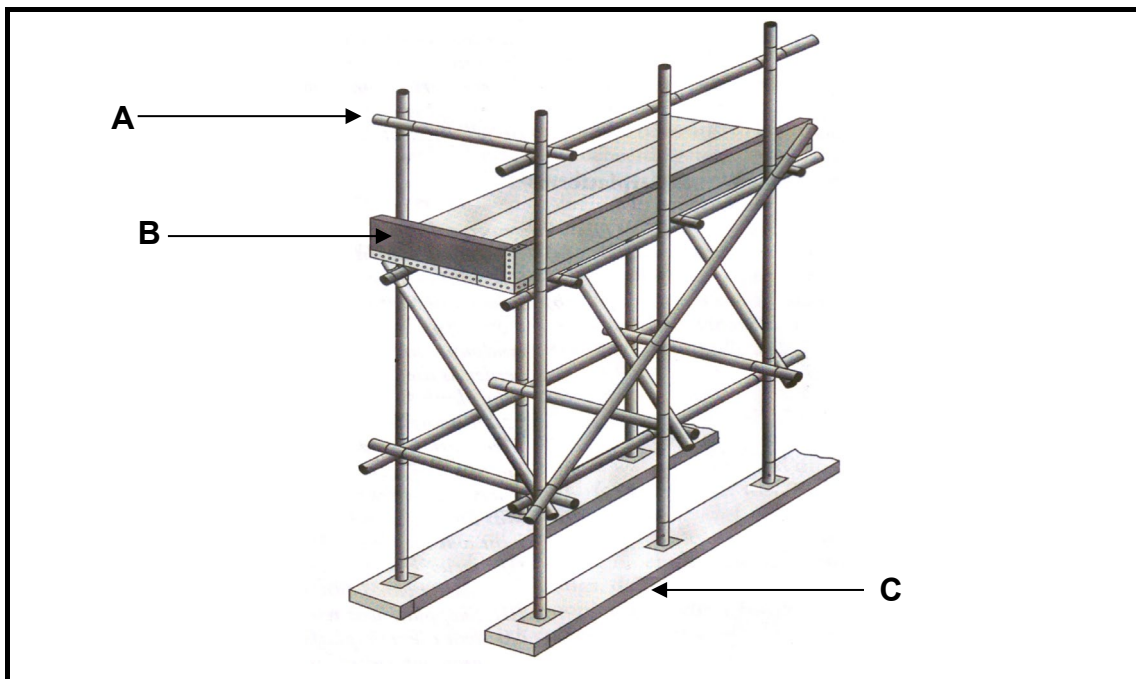

FIGURE 1.4
- 1.4 **Answer the questions** about **scaffolding** in FIGURE 1.4.